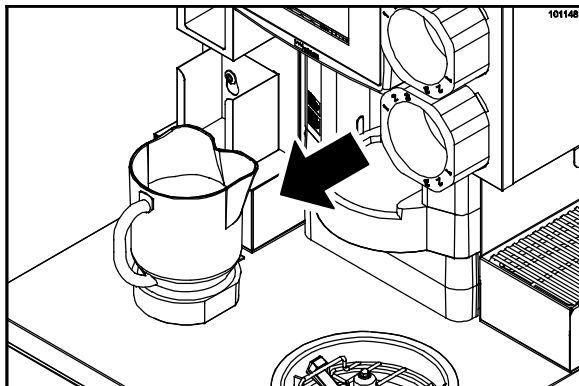

Figure 39
17. Remove the blender pitcher and discard the product into the back sink. (See Figure 39.)